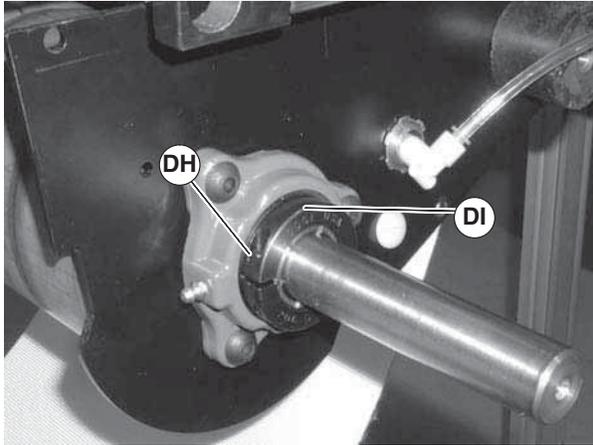

Figure 97
6. Loosen clamp screw (Figure 97, item DH) and remove bearing collar (DI).